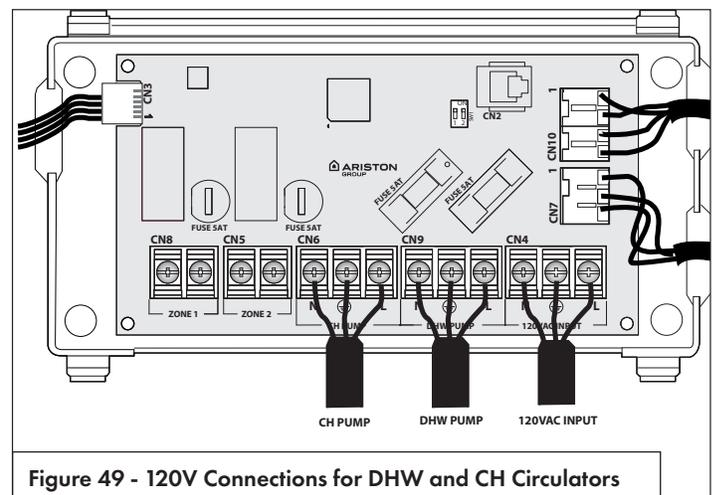

Figure 49 - 120V Connections for DHW and CH Circulators
6. Connect the field wiring to the respective output; see Figure 49.